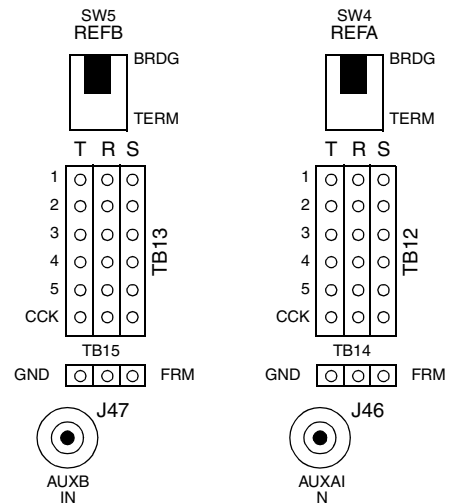

Figure 25. Rear Panel Reference Input Connectors
3.21 Use these instructions to connect reference inputs to the REF A and REF B section of the rear panel (Figure 25). Input references for the MRC-T and DCIM-T cards must be connected at the REF A and REF B connectors. The next section provides instructions for connecting reference inputs to interface modules.